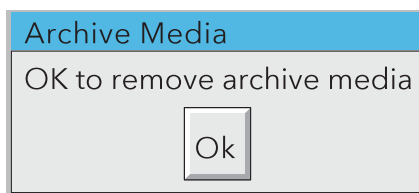

Figure 2.4.1b 'OK to remove archive media' message
3. Archiving is suspended, the internal solenoid releases the catch, to allow the flap to be opened, and a pop-up message appears 'OK to remove archive media' (figure 2.4.1b).
- b) If the 'Cancel' key is not operated (the warning message remains on the screen), then when the archive is complete, archiving is automatically suspended and the flap unlocks again for five seconds, allowing the memory device to be removed. The message on the screen changes to 'OK to remove archive media' (figure 2.4.1b), although, for demand archives this is masked by the 'Demand archive finished' message.